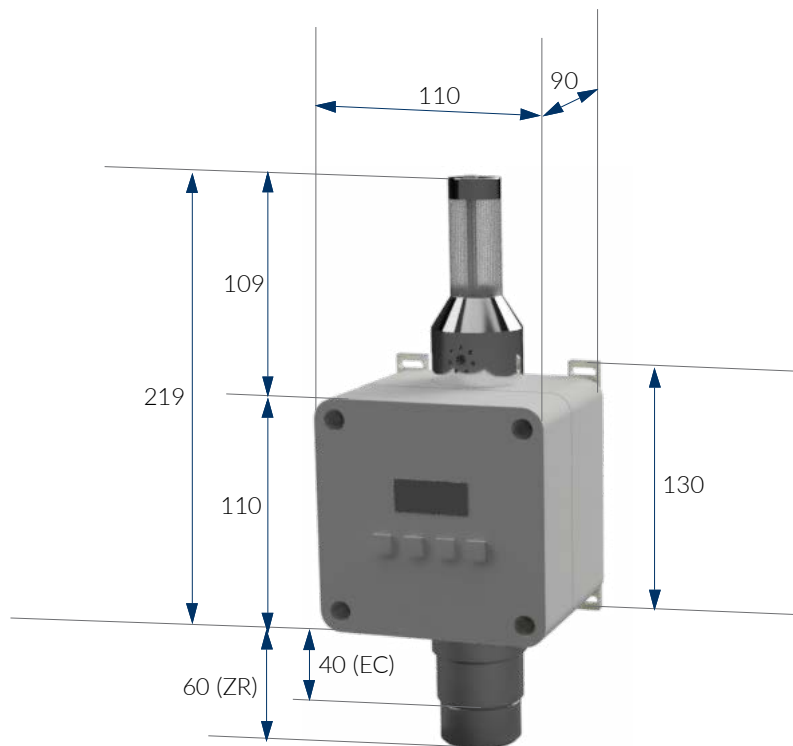

Figure 4. Gasenz dimensions (in mm)
- Gasenz dimensions (refer to Figure 4 on page 7)
NOTE: Gasenz should be mounted upright with the light tower at the top of the module and the sensor at the bottom as shown in Figure 4.